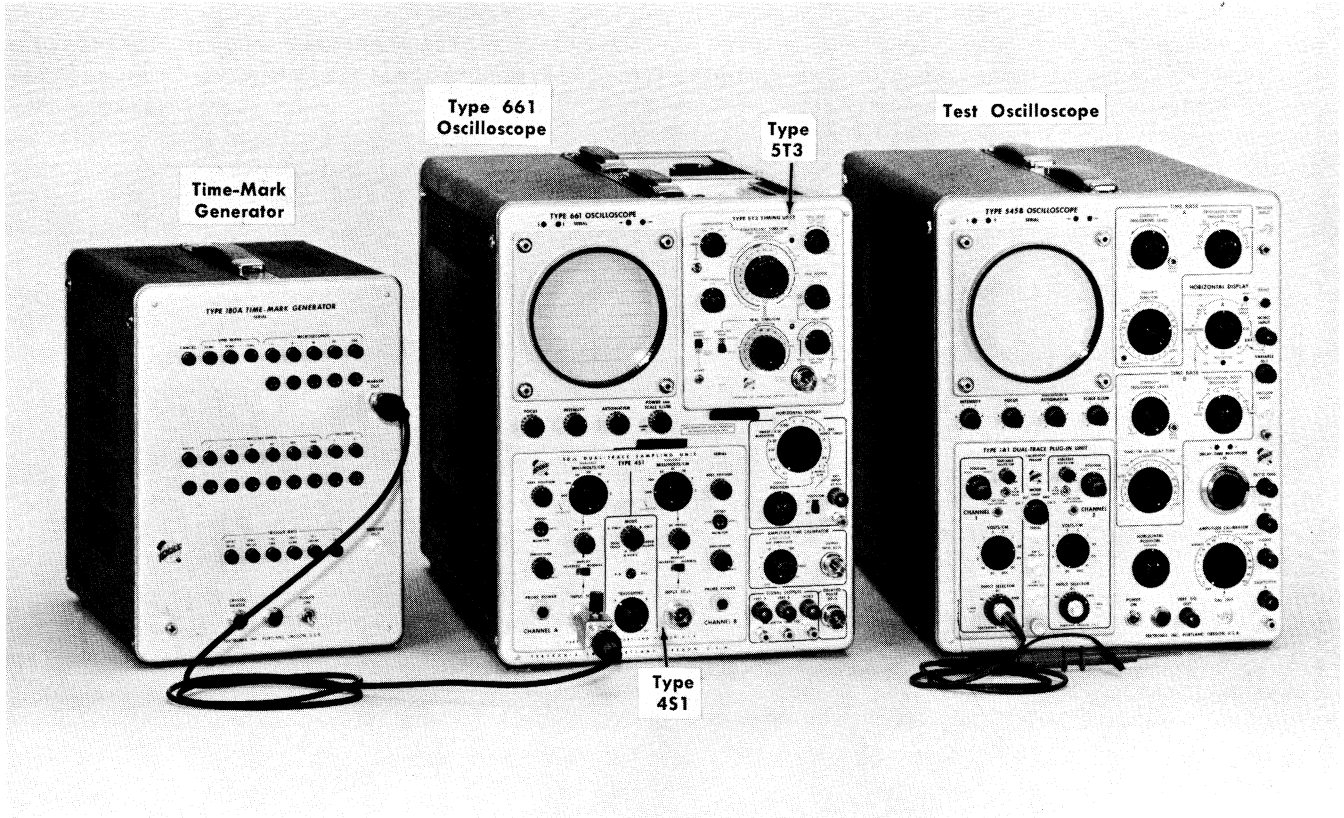

Fig. 5-14. Test equipment setup for steps 10 through 14.
- a. Test equipment setup is shown in Fig. 5-14.